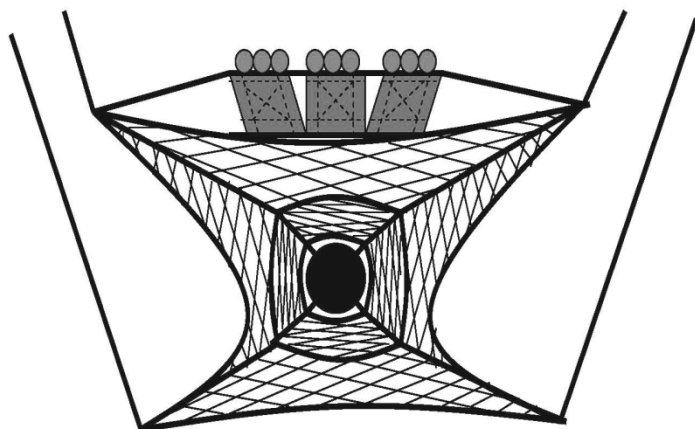

Figure 19. Kite panels on a midwater trawl gear.
**Kites:** Canvas panels attached to the headrope to keep the mouth open (see FIGURE 19). The bag that holds the gear mounted electronics is not considered a kite.